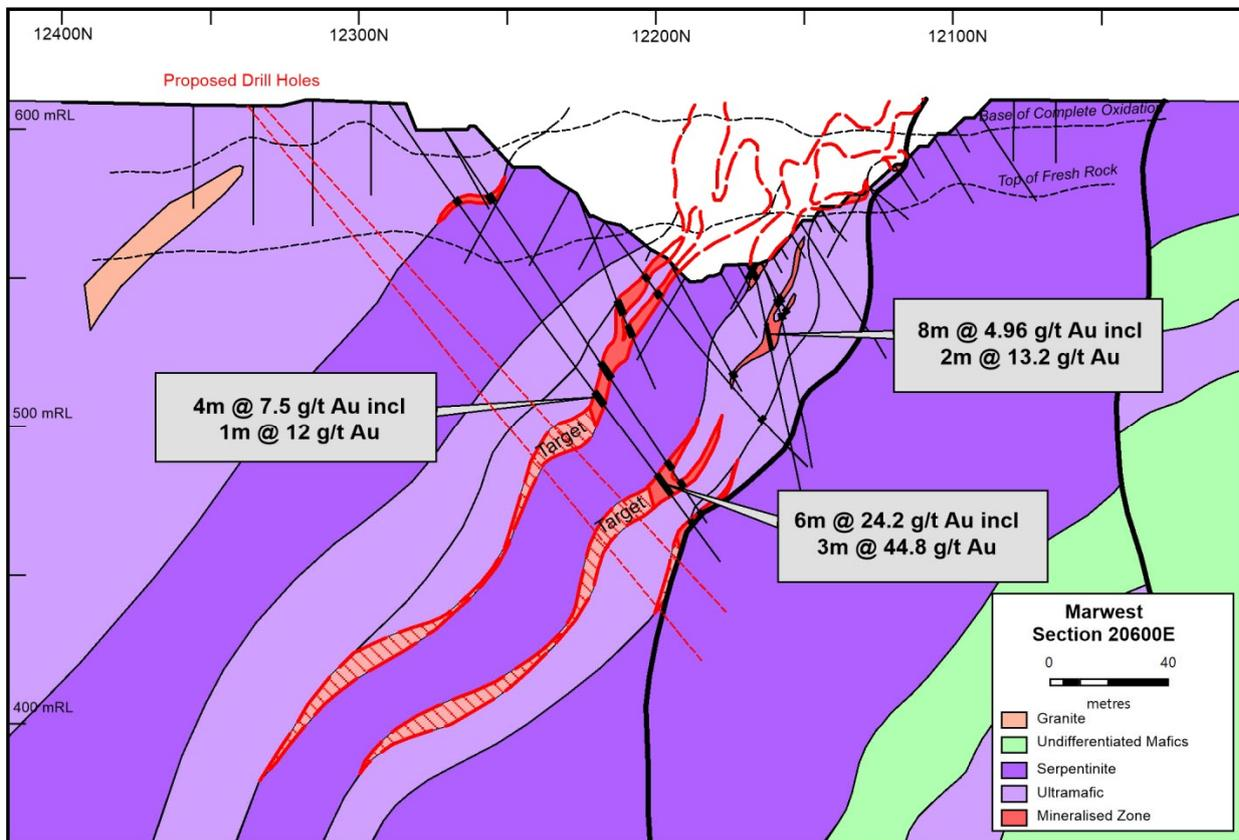

Figure 3: Marwest Cross Section 20,600mE with previous intersections and planned drilling
- 6m @ 24.2 g/t Au from 157m incl. 3m @ 44.8 g/t Au and 4m @ 7.5 g/t Au from 119m incl. 1m @ 12 g/t Au in MWRC0019 (see cross section Figure 3)
The new drilling programme at Marwest, initially comprising 9 holes for approximately 1,500m, is due to commence next week and will initially test the vicinity of the very high-grade gold intersections at Marwest Extended, then continue to test for down-plunge shoot extensions immediately under and to the west of the Marwest open pit (see cross section Figure 3).